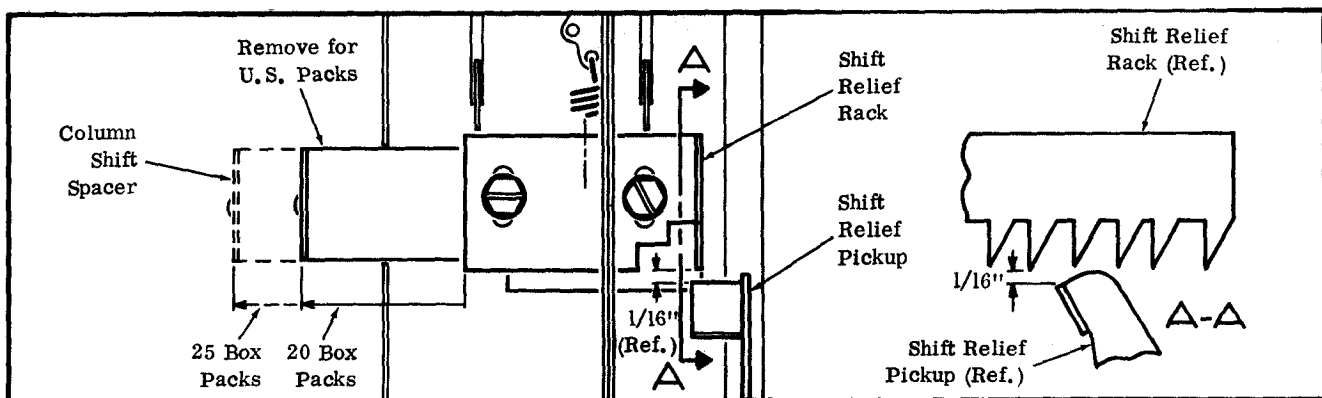

Figure 1. Adjustment of Shift Relief Rack and Column Shift Spacer
2. Loosen the two Screws and move the Shift Column Spacer to the extreme left, as seen by the operator as he looks into the rear of the Lower Cigarette Magazine, for Columns to vend Canadian 25 box packs. See Figure 1. Tighten the two Screws.
3. Loosen the two Screws and move the Shift Column Spacer to the extreme right, as seen by the operator as he looks in the rear of the Lower Cigarette Magazine, for Columns to vend Canadian 20 box packs. See Figure 1. Tighten the two Screws.
Loosen the two Screws and adjust the Shift Relief Rack so there is a 1/16" clearance between the tooth on the Shift Relief Rack, and the edge of the Shift Relief Pickup. See Figure 1.